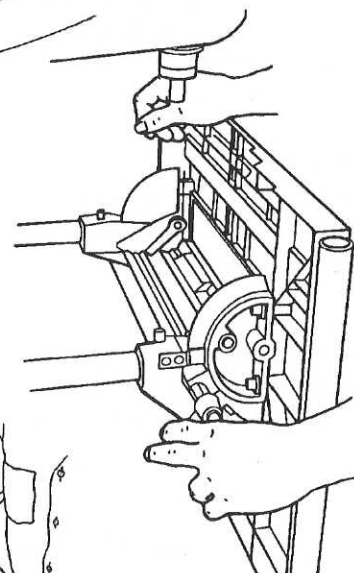
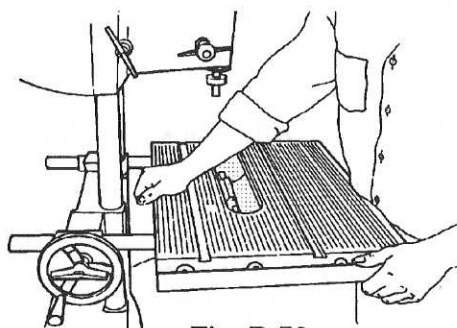

Fig. B-49
Fig. B-50
8. Move the worktable into the 90° position by loosening the table tilt lock (165), as seen in Fig. B-49, then putting the worktable in the horizontal 90° position, as shown in Fig. B-50. Retighten the table tilt lock only enough to allow movement with firm pressure.